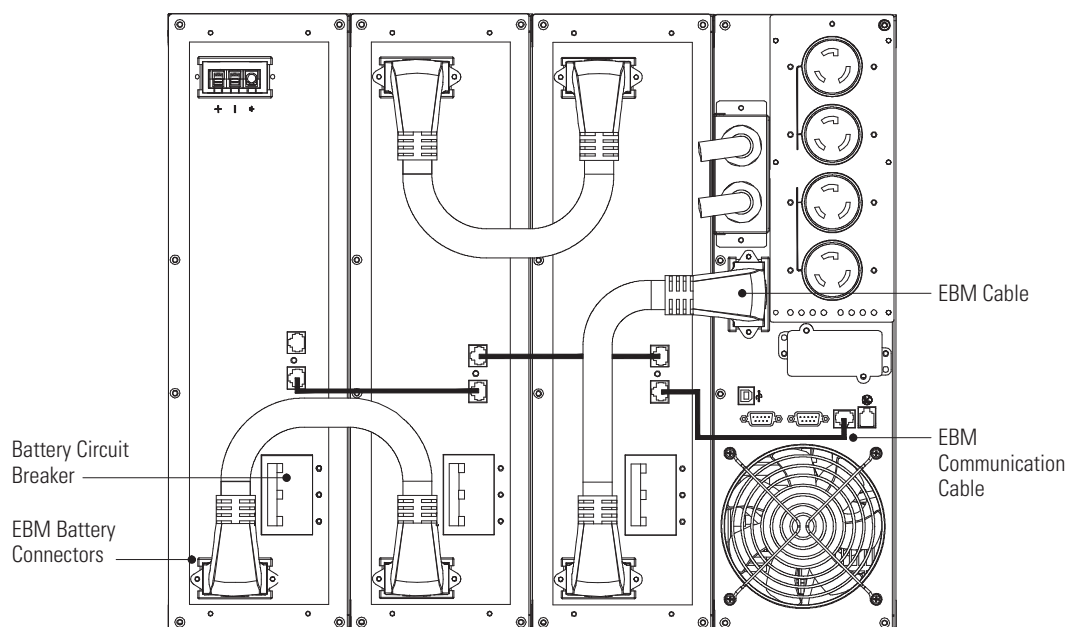

Figure 17. UPS Installation with Three EBM
3. Plug the EBM cable into the battery connector. Plug the EBM communication cable into the RJ-11 port. See Figure 17.